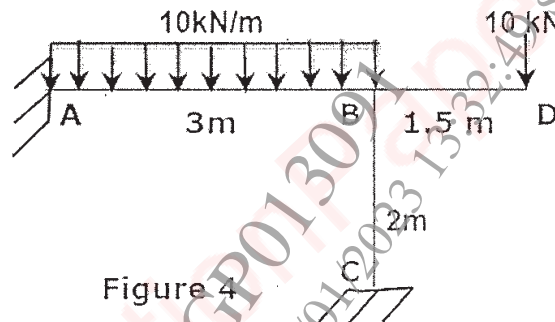

Figure 4
- b) Analyse the frame shown in figure 4 by slope deflection method. Assume uniform flexural rigidity. [6]